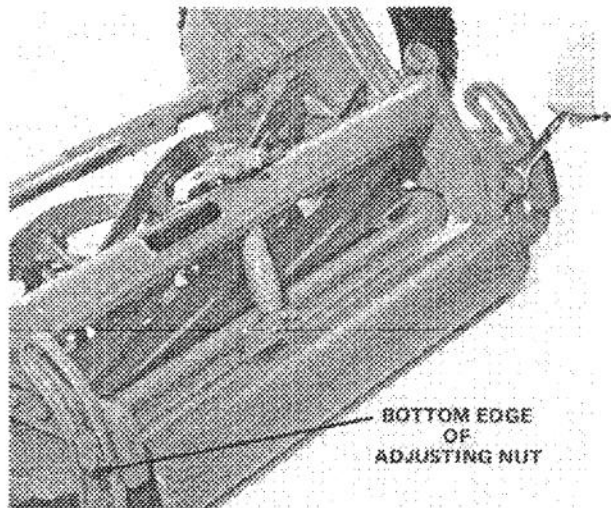

Figure 5
1. Set mower on a level surface. Make sure same number of notches show below bottom of roller adjusting nut (Fig. 5).
A new mower must have six or more notches showing below bottom edge of roller adjusting nut (Fig. 5). If less than six notches show, height-of-cut is too low. When height-of-cut is too low, the bedknife rather than the rear roller supports the mower. This causes the ground to push against bedknife and consequently, forces bedknife against the reel. The result is usually rapid wear of the bedknife and reel. An uneven wear pattern, commonly termed "rifling" could also result.
1. Loosen capscrews retaining adjusting nuts in roller brackets (Fig. 5).
2. Depending on height-of-cut desired, set roller adjusting nuts so six or more notches show below bottom edge of nuts (Fig. 5).
3. Tighten capscrews (Fig. 5) to retain height-of-cut setting, and make sure same number of notches show below both adjusting nuts.